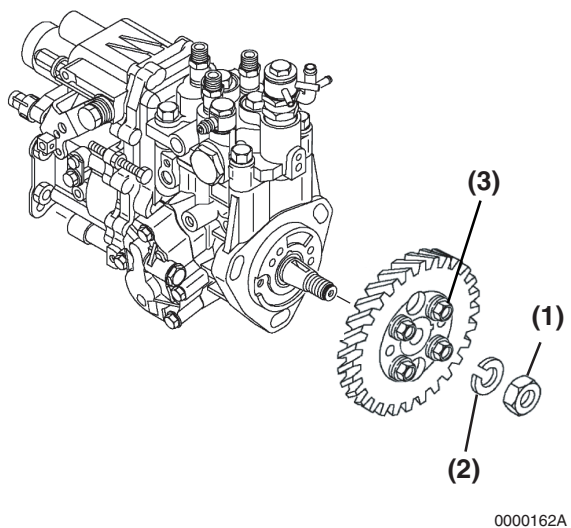

Figure 6-89
4. Do not remove the fuel injection pump drive gear unless absolutely necessary to avoid damage to the gear or pump. Do not loosen or remove the four bolts (**Figure 6-89, (3)**) retaining the pump drive gear to the hub. Only remove the nut (**Figure 6-89, (1)**) and washer (**Figure 6-89, (2)**), leaving the hub attached to the gear. Remove the pump drive gear and hub as an assembly using a gear puller.